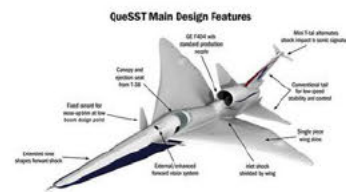

Fig. 3 . Main Design Features of QueSST.
2) Lockheed are developing a Quiet supersonic X- plane which believes in streamlining the aircraft to eliminate the sonic boom. "The idea is to create a sleeker shape that distributes the shock waves over a broader area, and add lifting surfaces like a canard, stabilator, and T-tail to further minimize impact points between the airframe and the air, creating fewer shock waves. Ditching the cockpit canopy in favor of an electronic vision system eliminates another boom point", as seen in Figure 3 which is taken from *X-59 QueSST* [7].